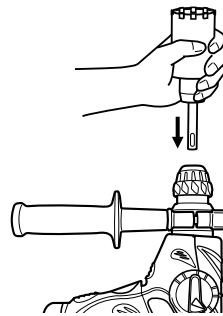
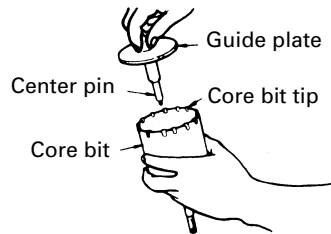

Fig. 15
Fig. 16
- (2) Mount the core bit shank to the rotary hammer. (Fig. 15)
- (3) Insert the center pin into the guide plate until it stops.
- (4) Engage the guide plate with the core bit, and turn the guide plate to left or right so that it does not fall even if it faces downward. (Fig. 16)